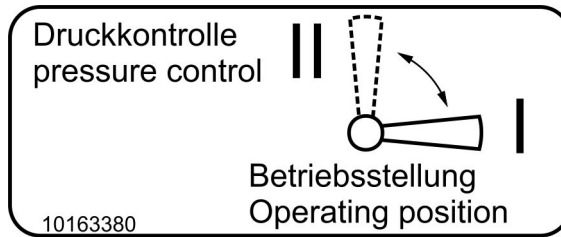
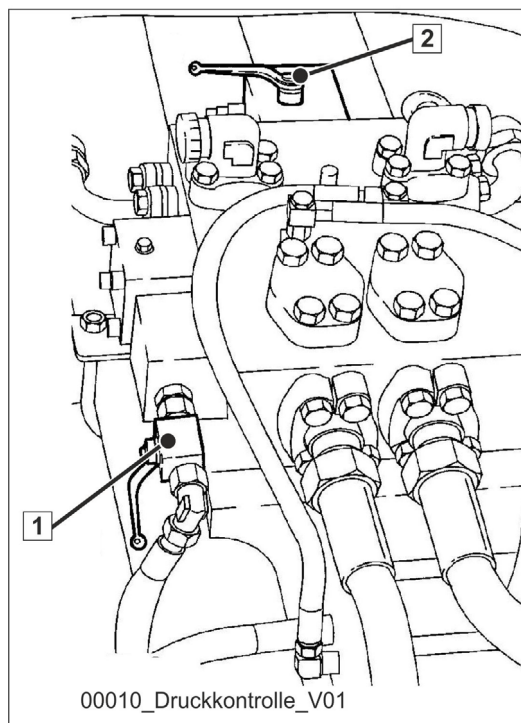

Fig. 300
Fig. 301
- Close the ball valve (1) (Fig. 301).
- For machines with MPS, set the ball valve (2) (Fig. 301) to position (II): Pressure check (Fig. 300).
Working operation is only possible while ball valve (2) (**Fig. 301**) is in the operating position (I)!